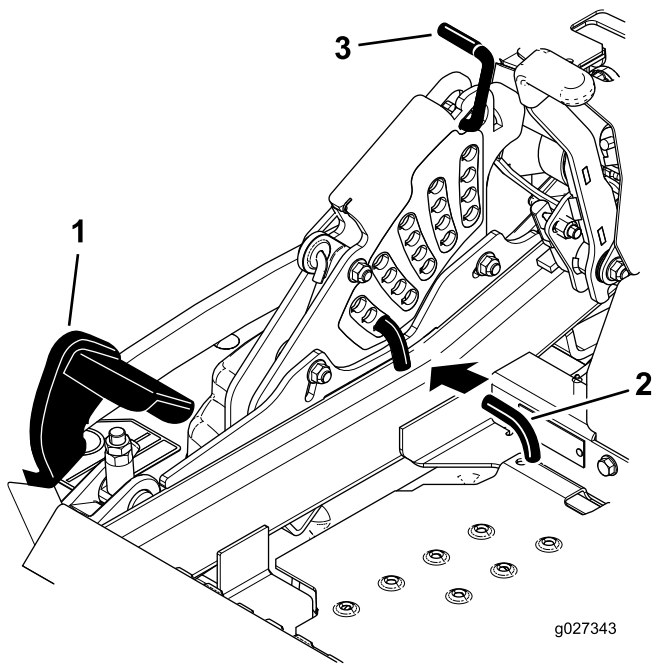

Figure 90
5. Push the deck lift pedal all the way forward and the deck will latch at the 14 cm (5-1/2 inches) transport position (Figure 90).